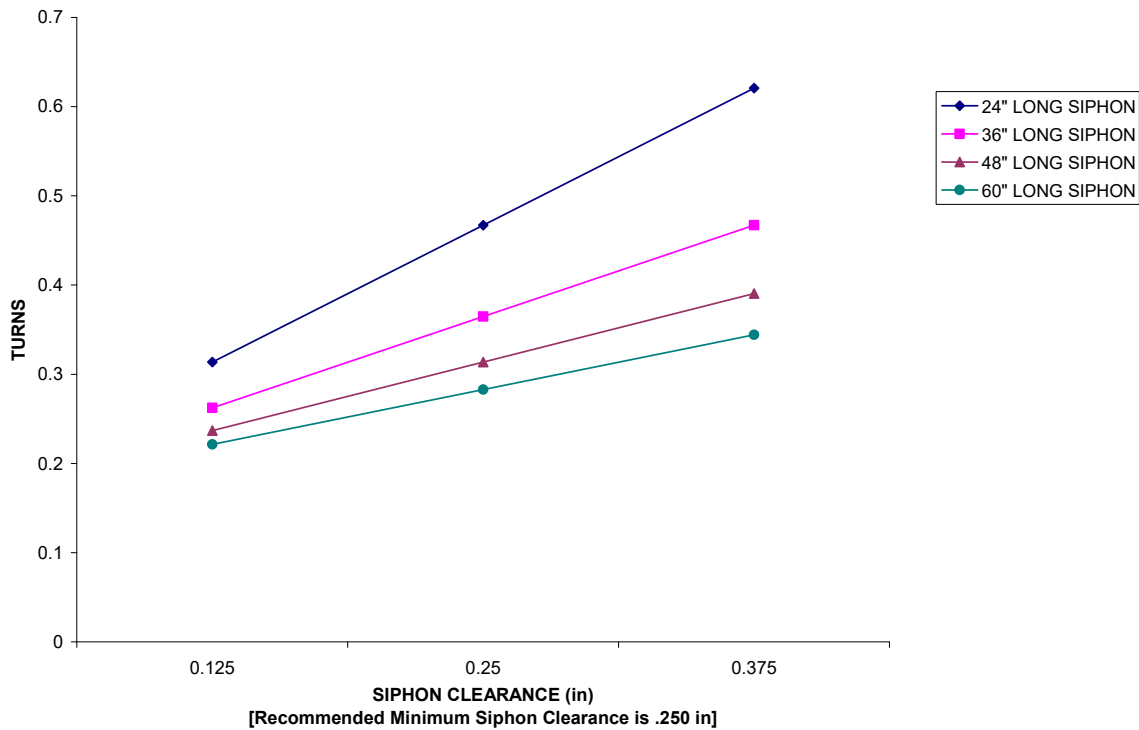

FIGURE 4
20. Tighten adjustment set screw (Item 7) until it just touches the union housing. Tighten the adjustment set screw the additional amount required to obtain the desired siphon clearance per Figure 4.